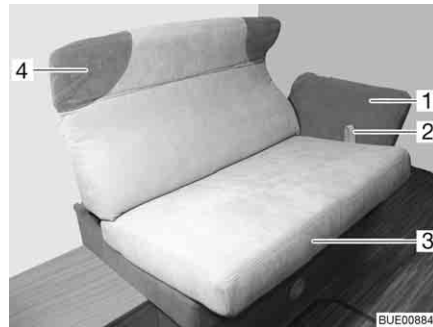

Fig. 93 Adjusting the divan
- Pull up the loop (Fig. 93,2) and carefully pull the seat (Fig. 93,3) along the rails as far as it will go towards the middle.
- Hold the neck cushion (Fig. 93,4) in both hands and carefully move it up or down to the right position.
- Hold the armrest (Fig. 93,1) in both hands and carefully move it up or down to the right position.